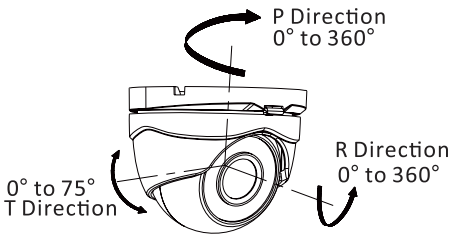

Figure 2-7 3-axis Adjustment
- 7.Adjust the camera according to the figure 2-7 to get an optimum angle and tighten the trim ring.